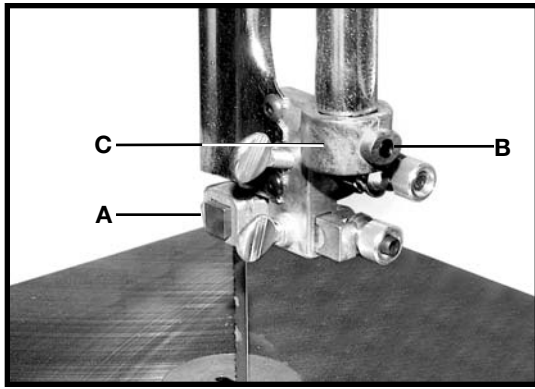

Fig. 27
3. Check the upper blade guide assembly. The blade guides (A) Fig. 27 should be parallel to the blade. To adjust, loosen the screw (B) and rotate the complete guide assembly (C). When the blade guides are parallel with the blade, tighten the screw (B).
2. Adjust the front edge of the guide blocks (B) Fig. 27 so that they are just behind the “gullets” of the saw teeth. Turn the knurled knob (C) Fig. 29 to make this adjustment. Check the support bearing (E) Fig. 28. It should not be touching the back of the blade.